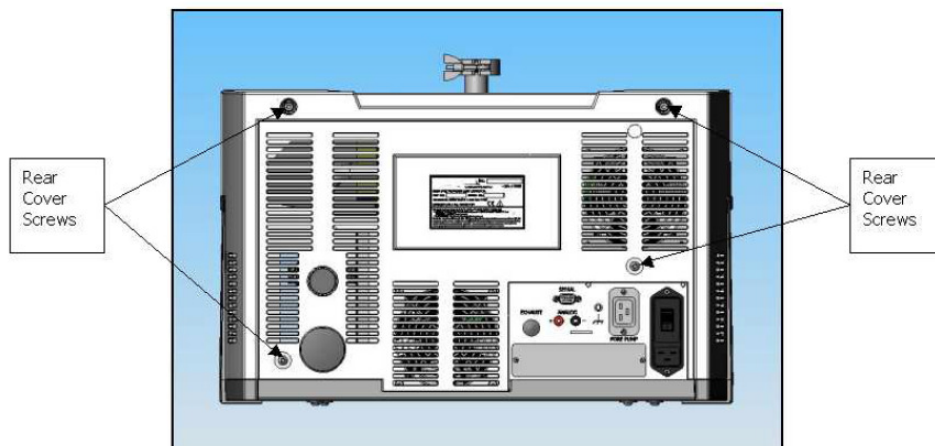

Figure 3-1. Rear screws
3. Using an extended length M5 Allen wrench, remove the four screws holding the rear plastic cover (Figure 3-1).